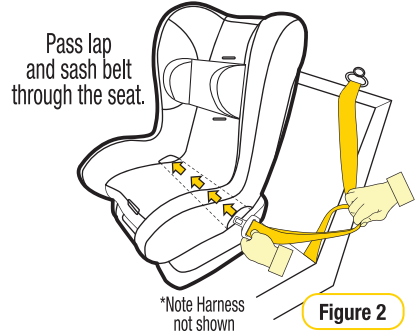

Figure 2
Step 2: Feed adult lap or lap/sash belt through the belt path opening, ensure the seat belt is under the cover & between the layer of foam and the plastic restraint base (refer Figure 2 & 3).